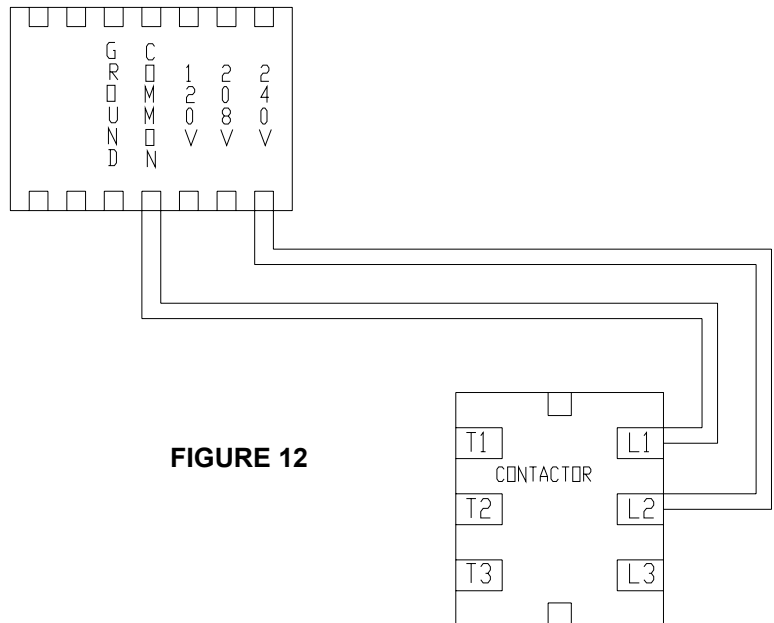

FIGURE 12
6. It is possible to run the system at 240V if you are using a pump that requires this much voltage. To do this you must switch the wire that runs from the contactor to the terminal block, as shown in **FIGURE 12**. This wire needs to be moved to the terminal that reads 240V on the terminal block. This should be done before any other wiring is attached to the controller.